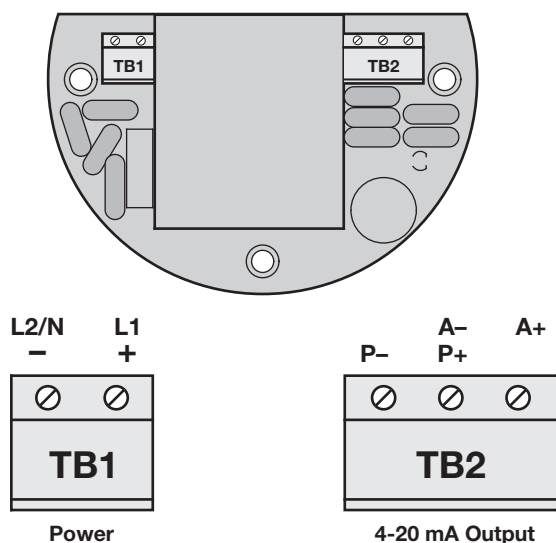

Figure 3
The instrument is factory wired to accept 24 VDC, 120 VAC, or 240 VAC. Check the nameplate to ensure that the instrument matches the desired input power. All power wiring connections are made to terminal block TB1. Refer to Figure 3.
4. Connect power leads to proper terminals of the terminal block TB1. Refer to Figure 3.
Use the active connection when the TA2 is providing power for the 4-20 mA signal. Use connections A- and A+ (see figure 3). The active connection will drive a 1000 ohm loop resistance.
Use the passive connection when an external power supply or the control system is used to power the 4-20 mA loop. Use connections P- and P+ (see figure 3). The resistance is dependent upon the customer supplied power supply.